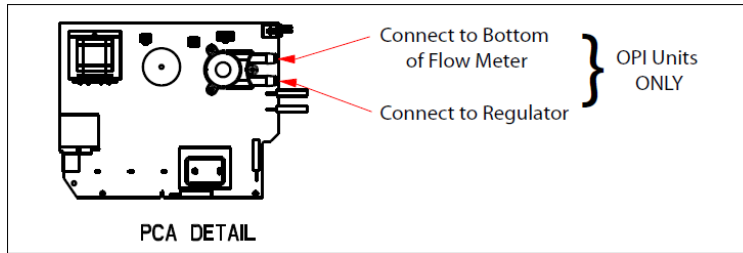

Figure 7-27: PRESSURE TUBING CONNECTIONS
3. Connect the Flow Tubing as shown in Refer to Figure 7-27.